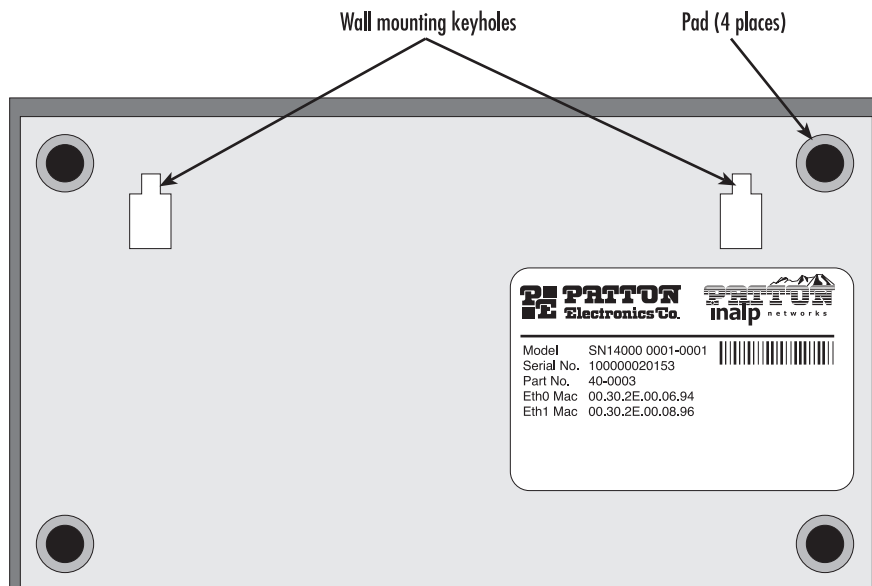

Figure 46. Pads and wall-mounting keyholes locations
1. Remove one of the rubber pads from the adhesive strip (included in the SmartNode installation kit pack) and place it on a corner on the bottom of the SmartNode 1400 (see figure 46).
2. Install the (user-provided) wall anchors. Any standard anchoring method may be used, such as wood screws; butterfly anchors/molly bolts (for installation into a sheetrock/drywall or plasterboard surface); or expansion bolts (for installation into a concrete or masonry surface). The anchor screw heads must have just enough clearance to allow the wall-mounting key holes (see figure 46 on page 83) to slip onto them when hanging the SmartNode 1400.